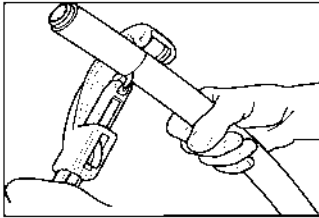

Figure: 4-49
3. Using the appropriate tubing cutter with **TracPipe®** #FGP-E-5272 cutting wheel, score the black sleeve approximately half of the way through. Figure: 4-49. Use extreme care not to cut or score the stainless corrugated pipe! Typically, no more than two turns in on the cutter is sufficient.